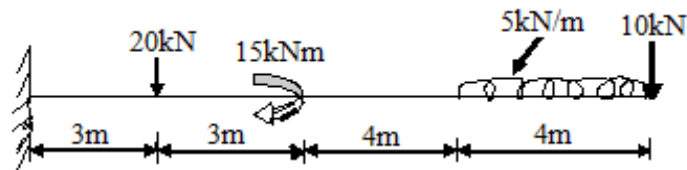

Figure 12.a
12. a Draw the shear force and bending moment diagram of the beam shown in Figure 12.a K3 2 16